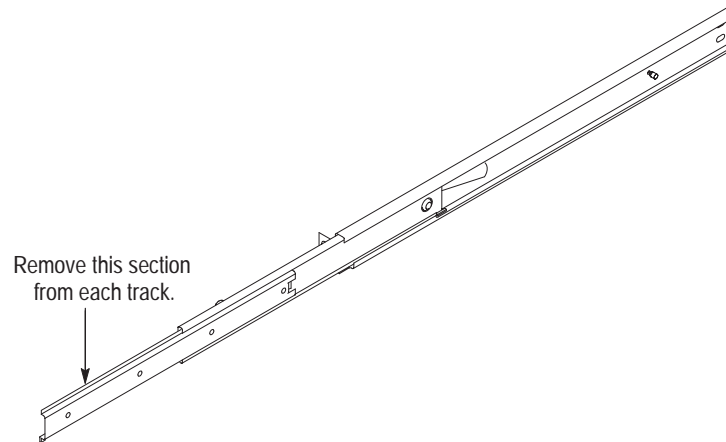

Figure 5: Prepare tracks for mounting
1. Remove the front section of each of the two tracks. See Figure 5.